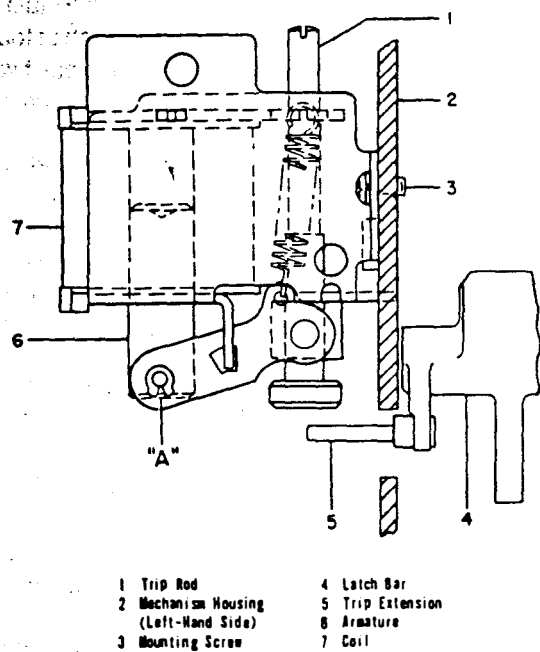

Fig. 10 — Shunt Trip Device Adjustment Type K-225 thru K-2000, K-1600S and K-2000S Circuit Breakers
Trip Adjustment Type K-225 thru K-2000, K-1600S, K-2000S (Refer to Fig. 10)
2. Locate the shunt trip adjusting screw. See Figure 10 in IB 6.1.2.7-1.
4. Rotate the screw clockwise three (3) full turns then stop.